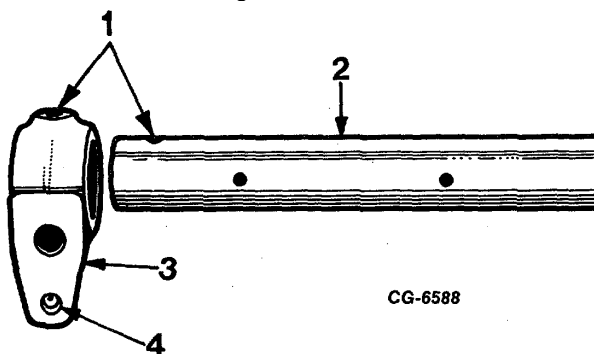

Fig. 126 Aligning Holes in Rocker Arm Shaft and Support
8. To assemble, align oil hole in oil feed support with cross hole in end of rocker arm shaft (Figure 126). Then press oil feed support on shaft, indexing oil holes.